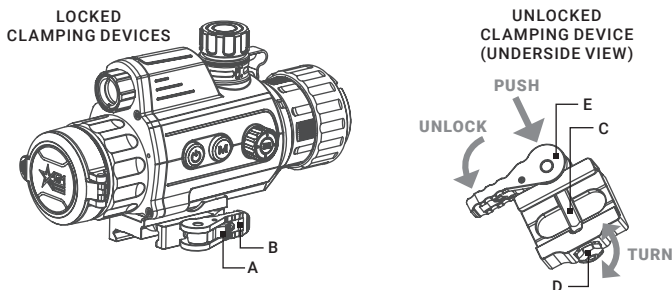

FIGURE 2-7. MOUNT
2. With the clamping device unlocked (as shown in Figure 2-7), push the cam (E) towards the arrow, which will cause the nut (D) to slide out of its hole.
3. To tighten/ loosen the clamping device, push down on the cam (E) and turn the nut (D) CW/ CCW respectively, in one-two increments (see note below). Much like when the cam (E) is released, backward-moving spring will cause the nut (D) to slide back into its hole.